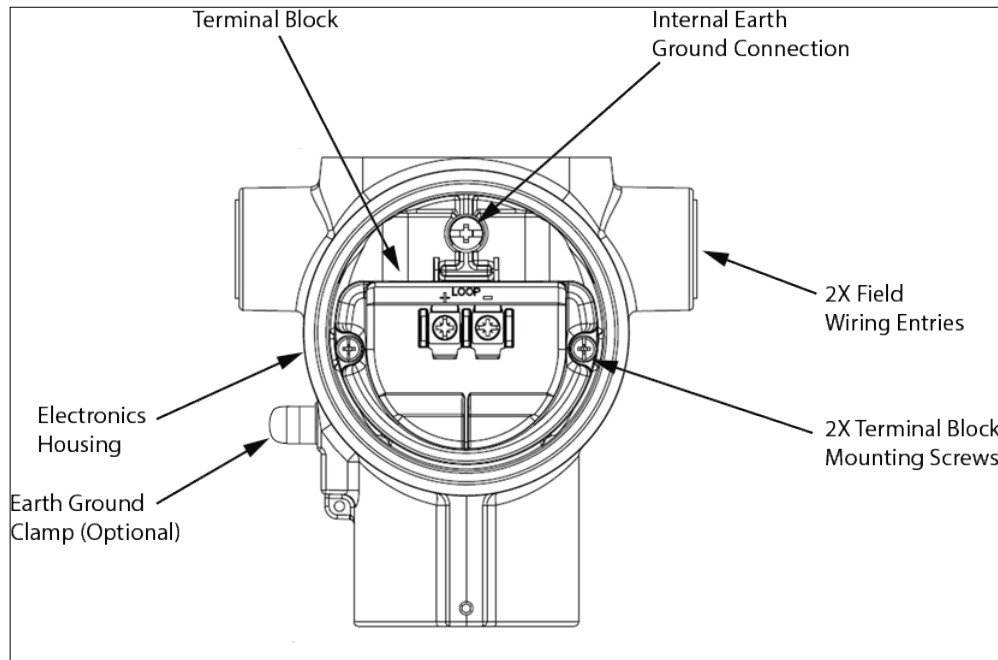

Figure 5: Two Position FF Terminal Block
Loop wiring is connected to the Remote Indicator by simply attaching the loop wires to the terminals on the Remote Indicator terminal block in the Electronics Housing shown in Figure 5. Connect the Loop Power wiring shield to earth ground only at the power supply end.
As shown in Figure 5, each Remote Indicator has an internal ground terminal. Optionally, a ground terminal is also on the outside of the Electronics Housing. While it is not necessary to ground the Remote Indicator for proper operation, doing so tends to minimize the possible effects of noise on the output signal and affords protection against lightning and static discharge. An optional lightning terminal block can be installed in place of the non-lightning terminal block for Remote Indicators that will be installed in an area that is highly susceptible to lightning strikes. For this to be effective the instrument case must be connected to earth ground.
1. See Figure 5, above, for parts locations. Loosen the end cap lock using a 1.5 mm Allen wrench.
If your Remote Indicator includes the optional lightning protection, connect a wire from the Earth Ground Clamp (see Figure 5) to Earth Ground to make the protection effective. Use a size 8 AWG or (8.37mm²) bare or green covered wire for this connection.